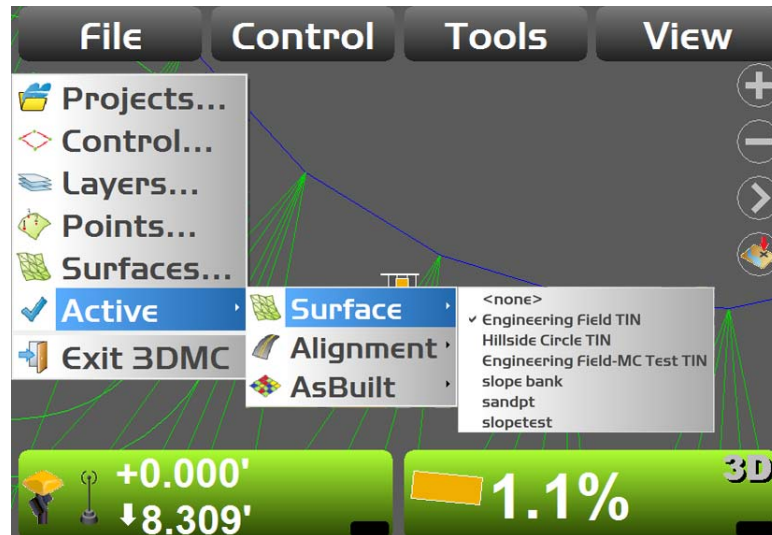

Figure 45: Select an Active Surface File
2. Select the surface file you want to be active on the main screen (Figure 45).